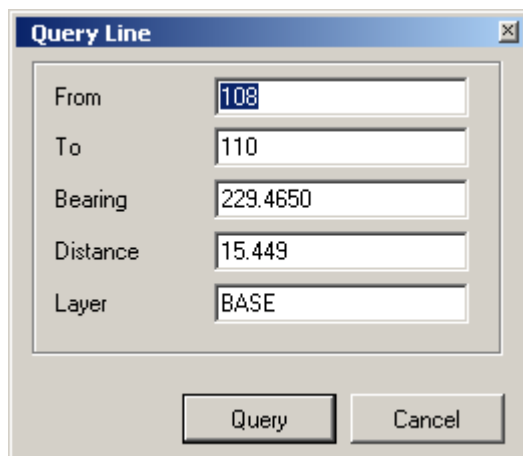

Figure 8 - Line query
- Select the **NEW LAYER** button and enter the layer REFERENCE. Set its colour to 4 – Red. See figure 8 below.